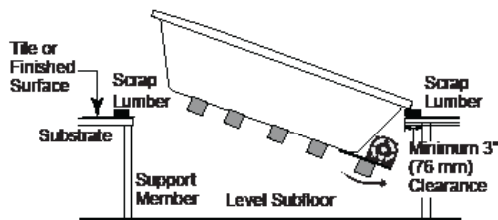

Fig. 5
4. Install the unit, for units equipped with a motor/pump and/or a blower, insert the motor/pump end first, lowering the bathtub into the opening (Figure 5).